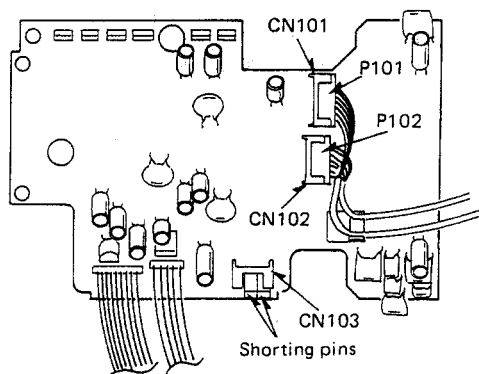

Fig. 4
- A) The laser diode can be destroyed if P101 remains open too long (about 20 seconds). Do not remove the shorting pin from P101 until you are ready to connect it to 03 module CN101 as shown in Fig. 4.